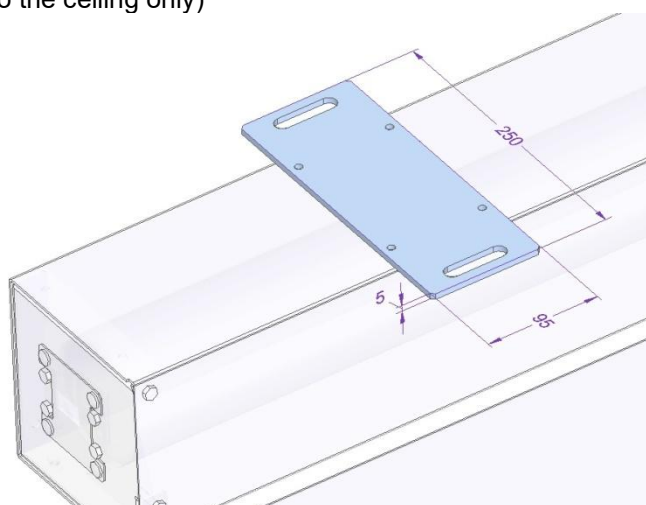

Fig. 8 Suspension bracket types.
1. Mount M10 or M12 threaded rods of suitable length in the structural component to match the arrangement of brackets (Fig. 8).